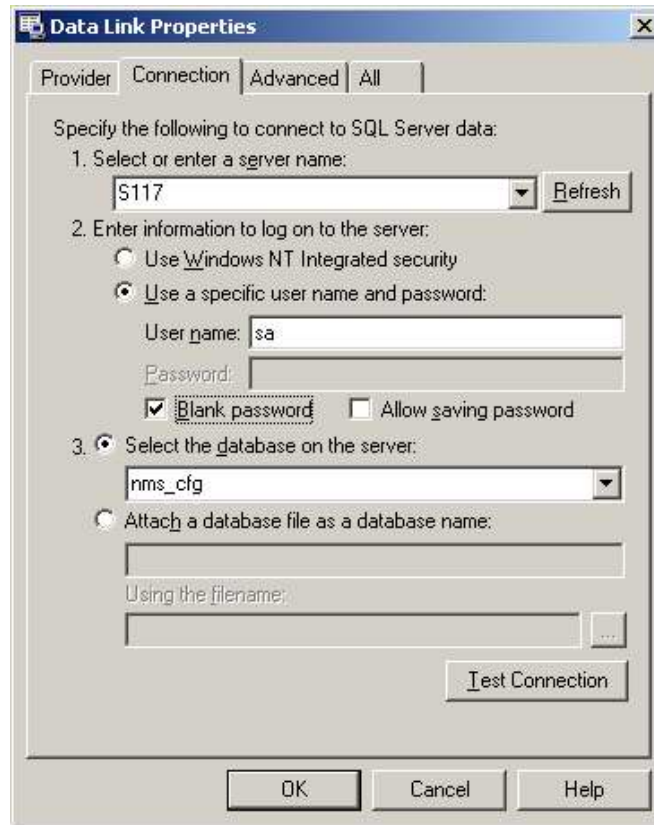

Figure C-12. Data Link Properties – Connection Tab
5. When the Connection tab displays, fill in the fields as shown in Figure C-12 for the configuration database datalink (using correct Server name). No other fields are required.